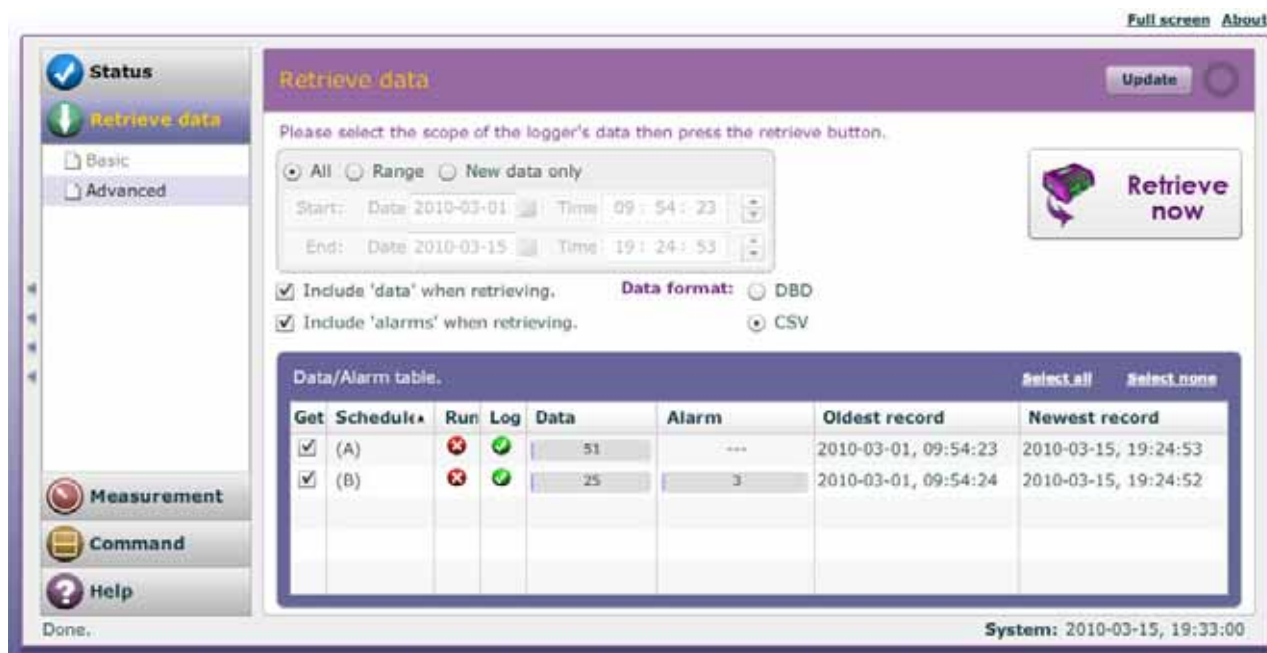

Figure 40: Retrieve Data Screen (Advanced View)
- The **Advanced** screen (see *Figure 40*) is the same, except it also shows details relating to the number of logged data/alarm records for each schedule (similar to the **Schedules** screen (P141)). You can also select the schedules for which to retrieve data.